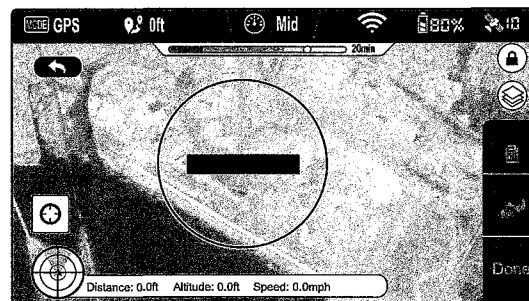

Figure 104
- ⚠ A circle on the map, as shown in Figure 104, indicates a restricted, No Waypoint area. Waypoints cannot be placed in this area. For more information, refer to "6.2 Flight Restriction of Restricted Areas (P30)".